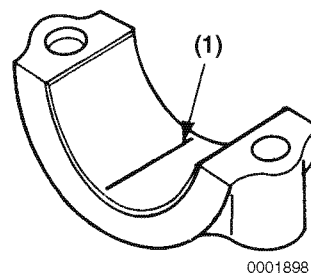

Figure 6-108
- Place a piece of PLASTIGAGE (**Figure 6-108, (1)**) along the full width of each bearing insert.